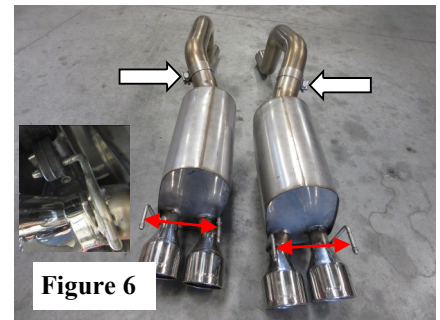

Figure 6
4. Place a clamp over each expanded end of the **X-pipe Assembly** and install both **R/H and L/H Intermediate Pipe Assemblies** to **X-pipe Assembly**. (SEE FIG. 6) **DO NOT TIGHTEN HARDWARE.**